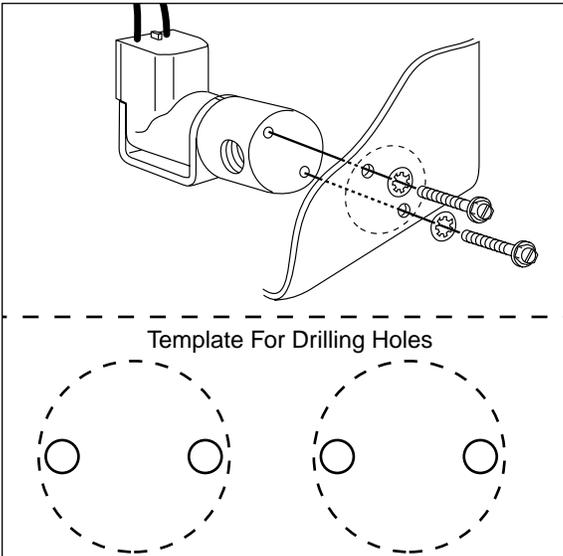

Figure 3
2. Select a convenient mounting location for the solenoid, which provides protection from the elements. Using the template provided in Figure 3, center punch the holes, remove the template, and drill two 3/16" holes. Use the supplied hardware for solenoid mounting (Figure 3).